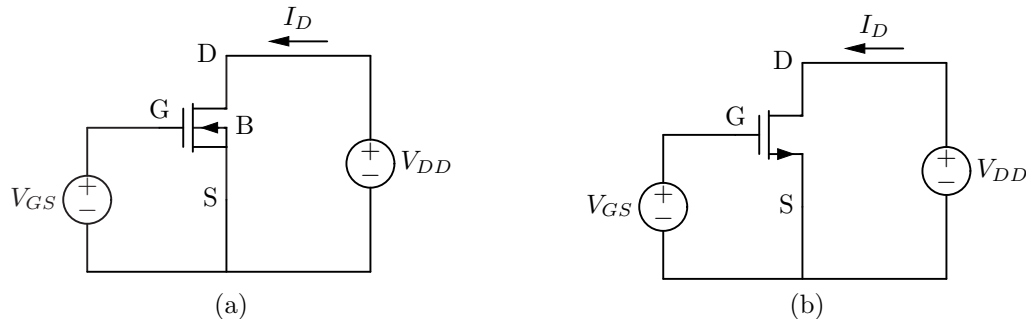

Figure 2: (a) NMOS transistor with body terminal explicitly shown (b) NMOS transistor with body implicitly tied to source
- Figure 2(a) shows a transistor called an n-MOSFET, short for **n**-channel **metal-oxide-semiconductor field effect transistor**. We often call these NMOS or NFETs for short. Although you haven't learned how these work yet, you can still simulate them in SPICE. The terminals of the device are labeled for you: **D**rain, **G**ate, **S**ource, and **B**ody. In this case, the body is connected to the source, a configuration we'll see often in this course. In this configuration, transistors are often drawn as in Figure 2(b).
- Write a netlist for the circuit in Figure 2 using the following parameters: